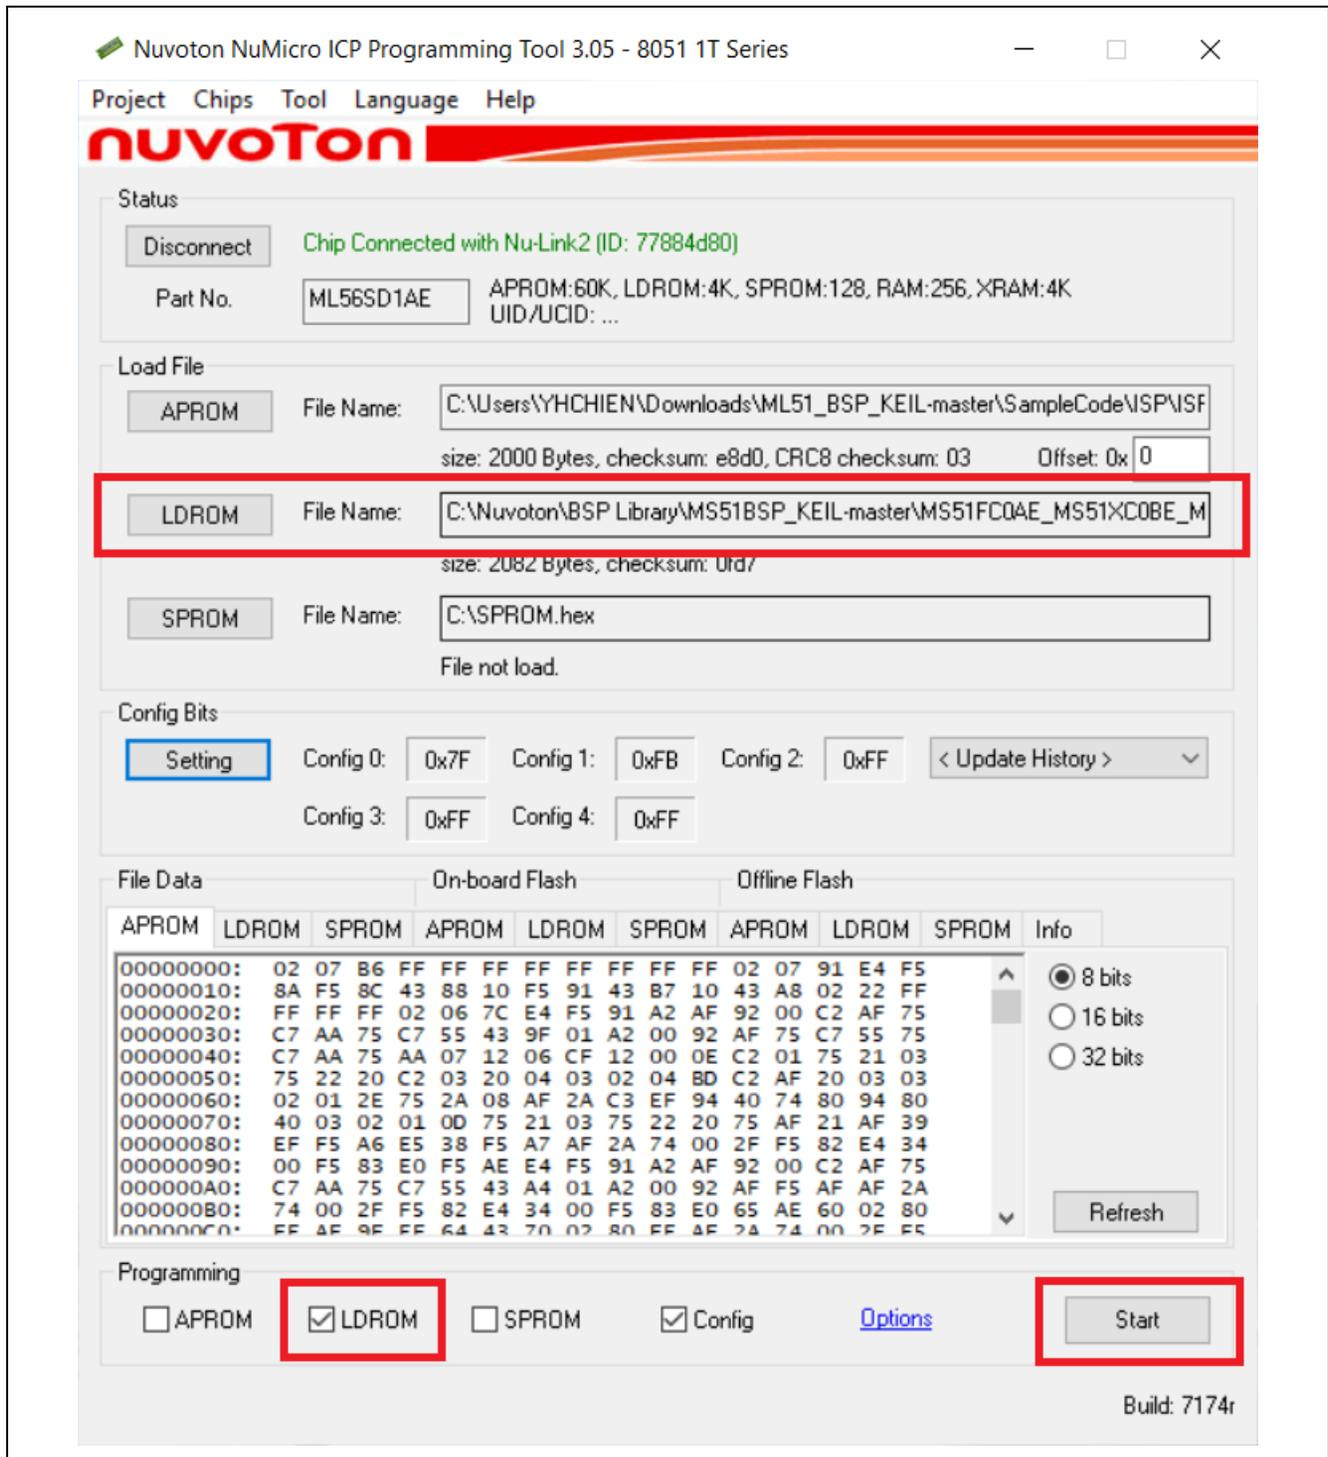
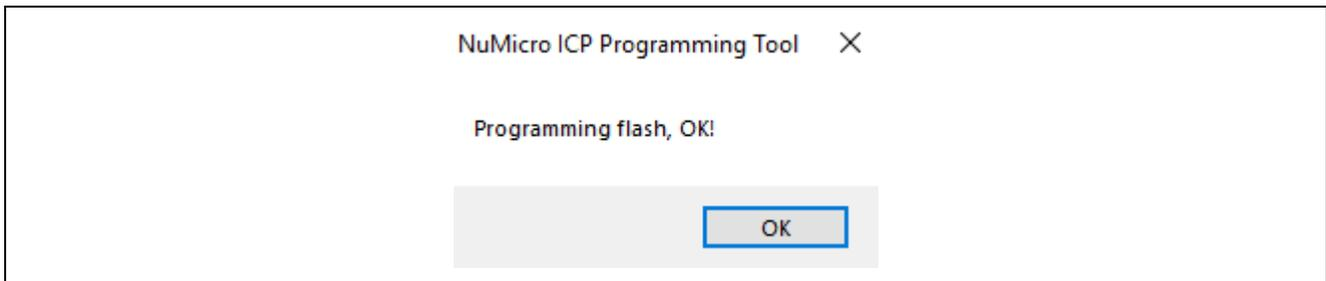

Figure 4-9 Programming File Selection Window
Figure 4-10 Programming Completion Window
- (12) As shown in Figure 4-9, in the Programming File Selection Window, select the required “.bin” file to program LDROM, and tick the radio button next to the memory location aimed to program, which is LDROM in this case.
- (13) Click the **Start** button in the Programming File Selection Window to start programming.
- (14) As shown in Figure 4-10, click the **OK** button in the Programming Completion Window to complete the operation.